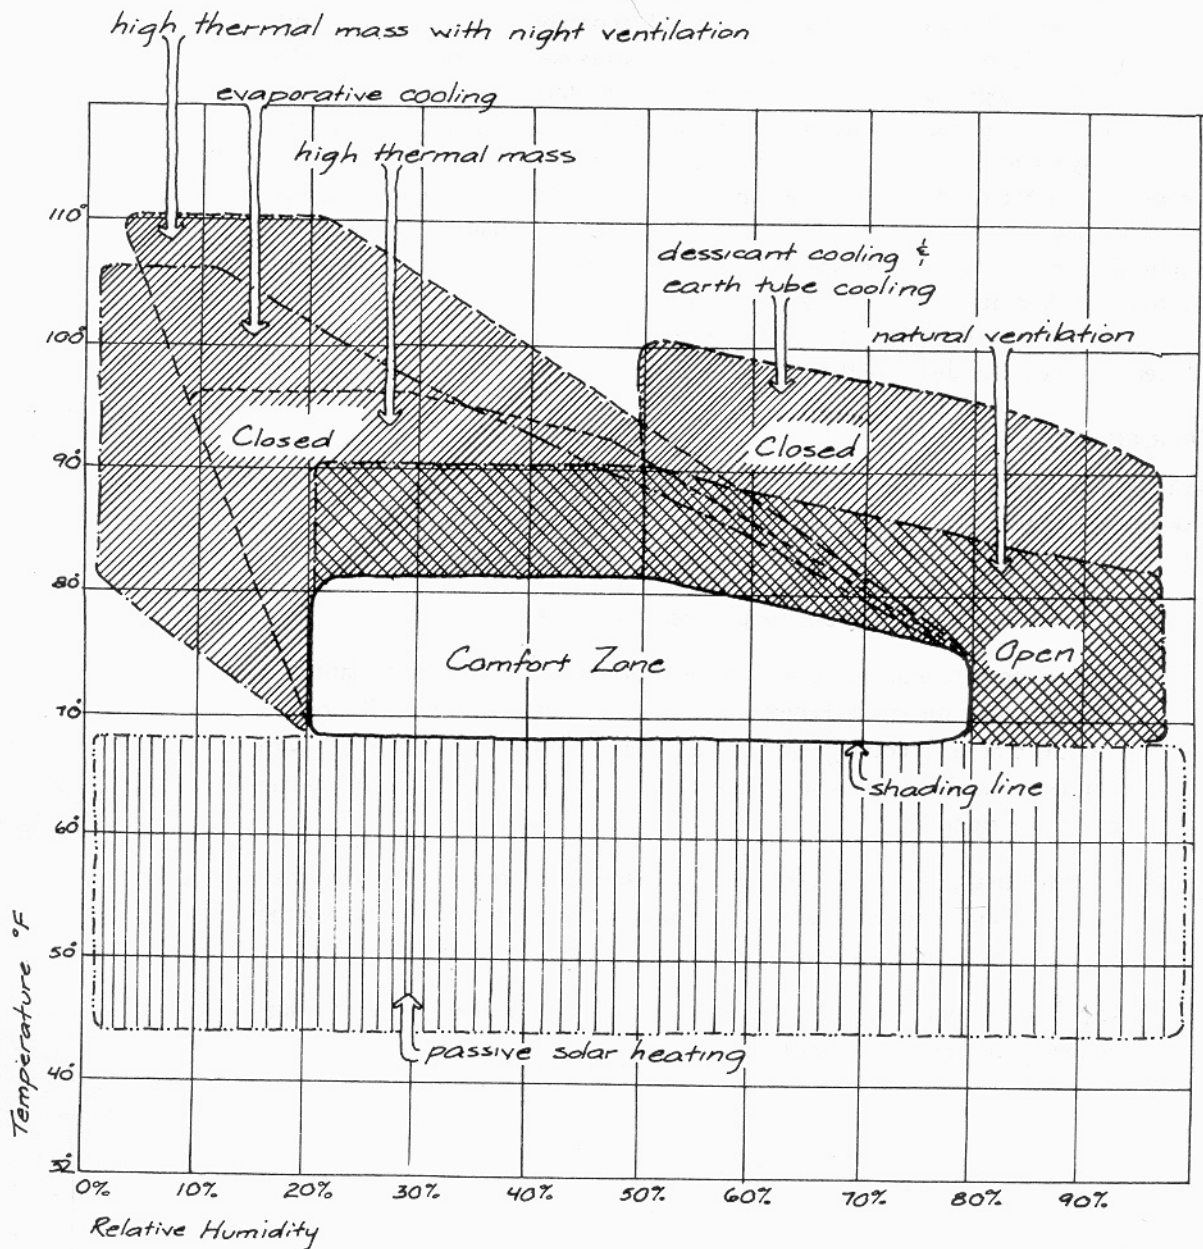

Figure D1.2.1 Bioclimatic Chart of Thermal Strategies
The bioclimatic chart of thermal strategies [Figure D1.2.1] can be used to identify appropriate thermal responses for your climate. It separates cooling strategies into “open” (cross-hatched pochet) and “closed” (diagonal pochet). In the comfort zone (no pochet), both strategies are applicable. Below the comfort zone (vertical pochet), passive solar heating strategies are applicable. In extremely dry climates, only evaporative cooling is effective. In hot, dry southern climates (less than 30% relative humidity and south of 36°N latitude), roof ponds can be used for cooling and heating. In warm, wet climates (greater than 50% relative humidity), desiccant radiators can be used for cooling. In climates that have characteristically moist soil, earthtube cooling can be effective. Further discussion of desiccant, roof-pond, evaporative, and earthtube cooling can be found in E1.9–E1.12. Programmatic considerations may suggest different strategies for different thermal zones in your building.
2. Make a separate bioclimatic plot for each zone. Plot the monthly climatic data on the bioclimatic chart [Figure D1.2.1]. Use the data from B1.1. Represent months that need cooling with a **BLUE** line, months that need heating with a **RED** line, and months that need both cooling and heating with a **BLUE** line that turns **RED**.